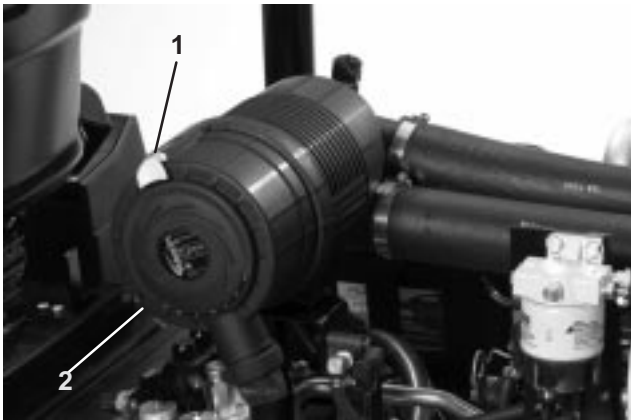

Figure 43
1. Release latch securing air cleaner cover to air cleaner body (Fig. 43). Separate cover from body. Clean inside of air cleaner cover.